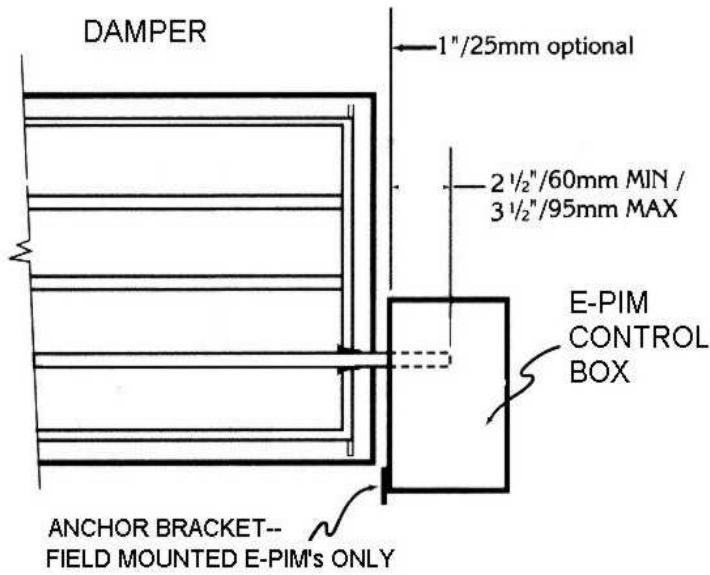

Figure 3
- b) Anchor the E-PIM from turning using the bracket provided. The bracket flexes allowing for damper shaft eccentricity. **DO NOT SCREW THE E-PIM TO THE DAMPER OR DUCT**, as this will cause the E-PIM to stall. E-PIMs supplied with dampers have factory-installed brackets similar to Fig 1. E-PIMs for field mounting have a factory bracket, Figs. 3 and 4. Rotate the bracket to the side and screw or rivet to the duct.